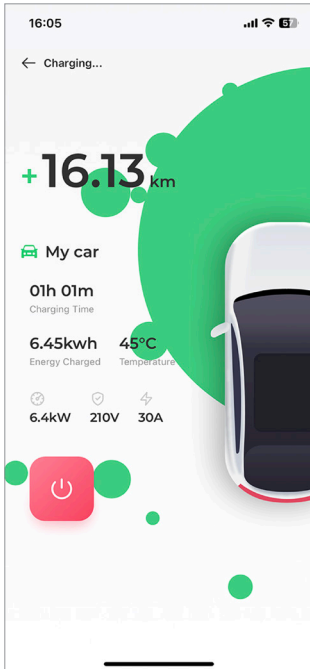
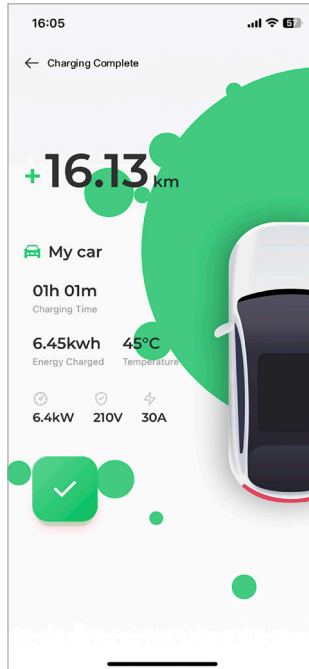
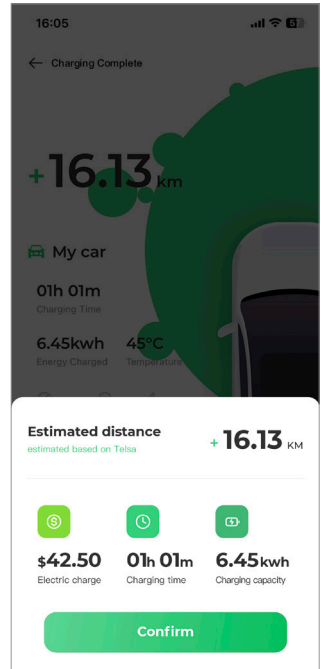

Fig. 5-14
Fig. 5-15
Fig. 5-16
2. You can check the charging status during charging. Tap the  icon to stop charging (See Fig. 5-14). The icon turns to  (See Fig. 5-15). Tap the  icon to view the charging details. (See Fig. 5-16)